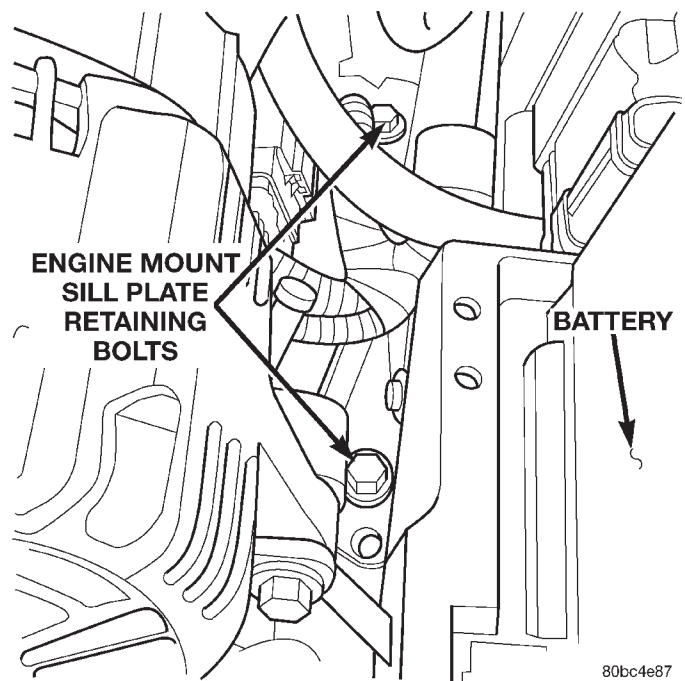

Fig. 22 Engine Mount Sill Plate Bolts - Leftside
- (10) Install the leftside engine mount sill plate retaining bolts (Fig. 22). Leave loose at this time.